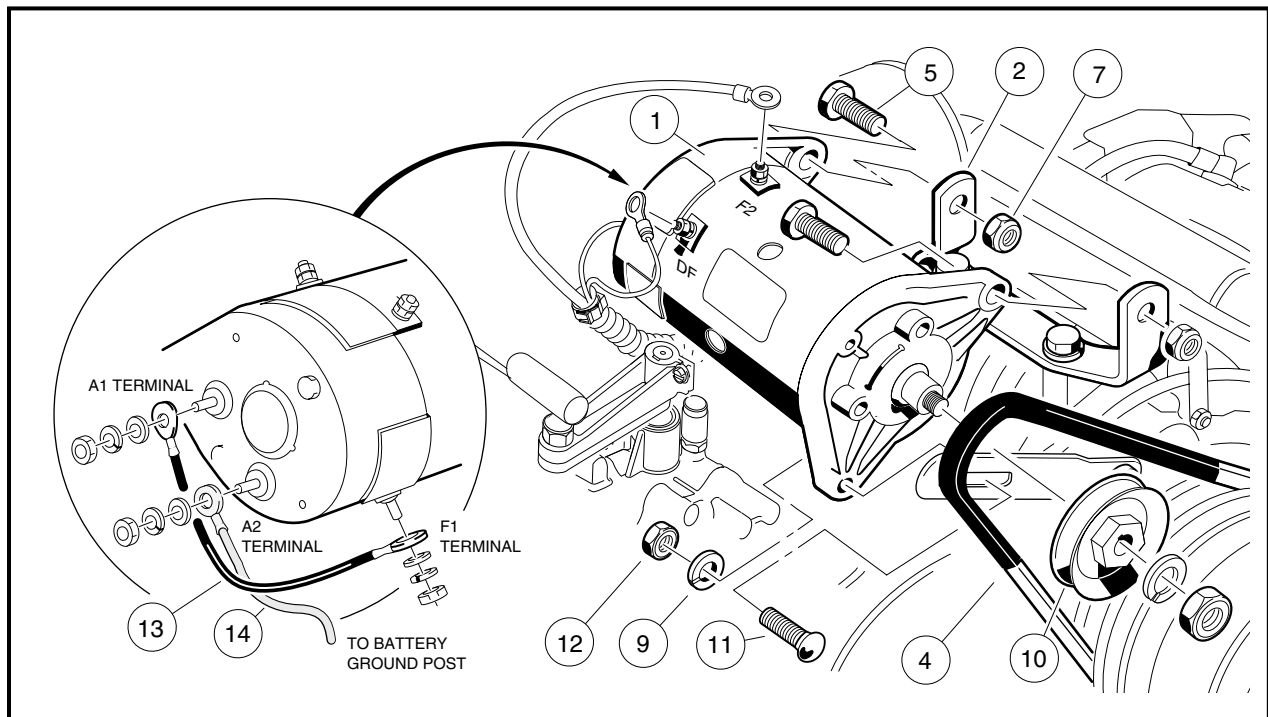

Figure 12-2 Starter/Generator Removal
4. Disconnect the wires from the starter/generator (1). Mark wires before disconnecting. Loosen the pivot nuts (7) and bolts (5) (**Figure 12-2, Page 12-3**).
5. Remove the mounting/adjustment nut (12), lock washer (9) and bolt (11). Lower the starter/generator and slip the belt (4) off the pulley (10).
6. Support the starter/generator so that when the pivot bolts are removed the starter/generator will not fall to the ground. Remove the two pivot nuts (7) and bolts (5) from the mounting bracket.